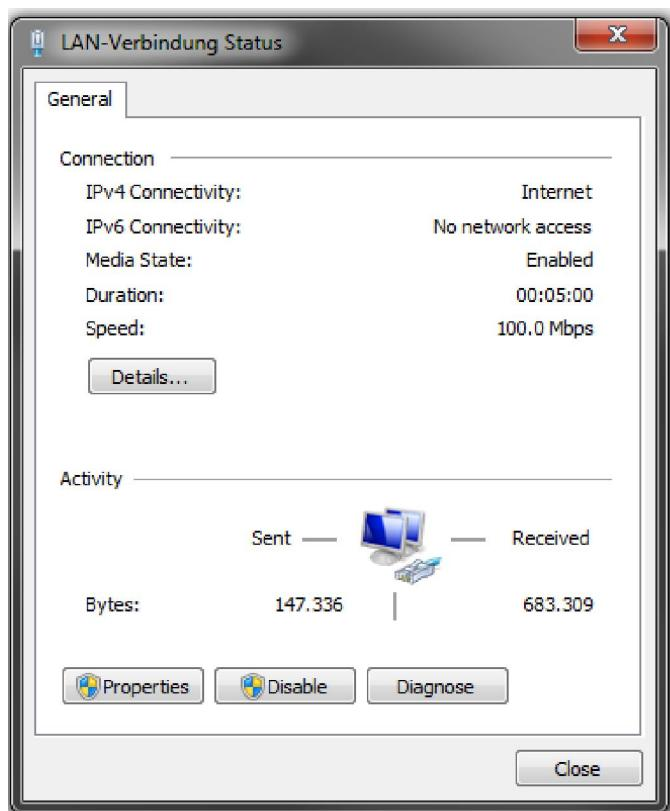

Fig. 44: LAN connection status
- ▶ Select 'Properties' (Fig. 44).